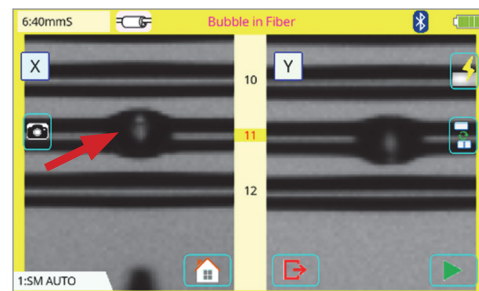

Figure 8
- A Bubble error can sometimes arise when splicing highly multimode fibers, especially. This is the result of air becoming trapped in the glass as the two fibers begin to melt together. In this event, break and re-splice (see **red arrow** in **Figure 8**). This line does not affect splice loss, and the Bubble error can be handled by adjusting the “Bubble Sensitivity” setting in the splice mode.